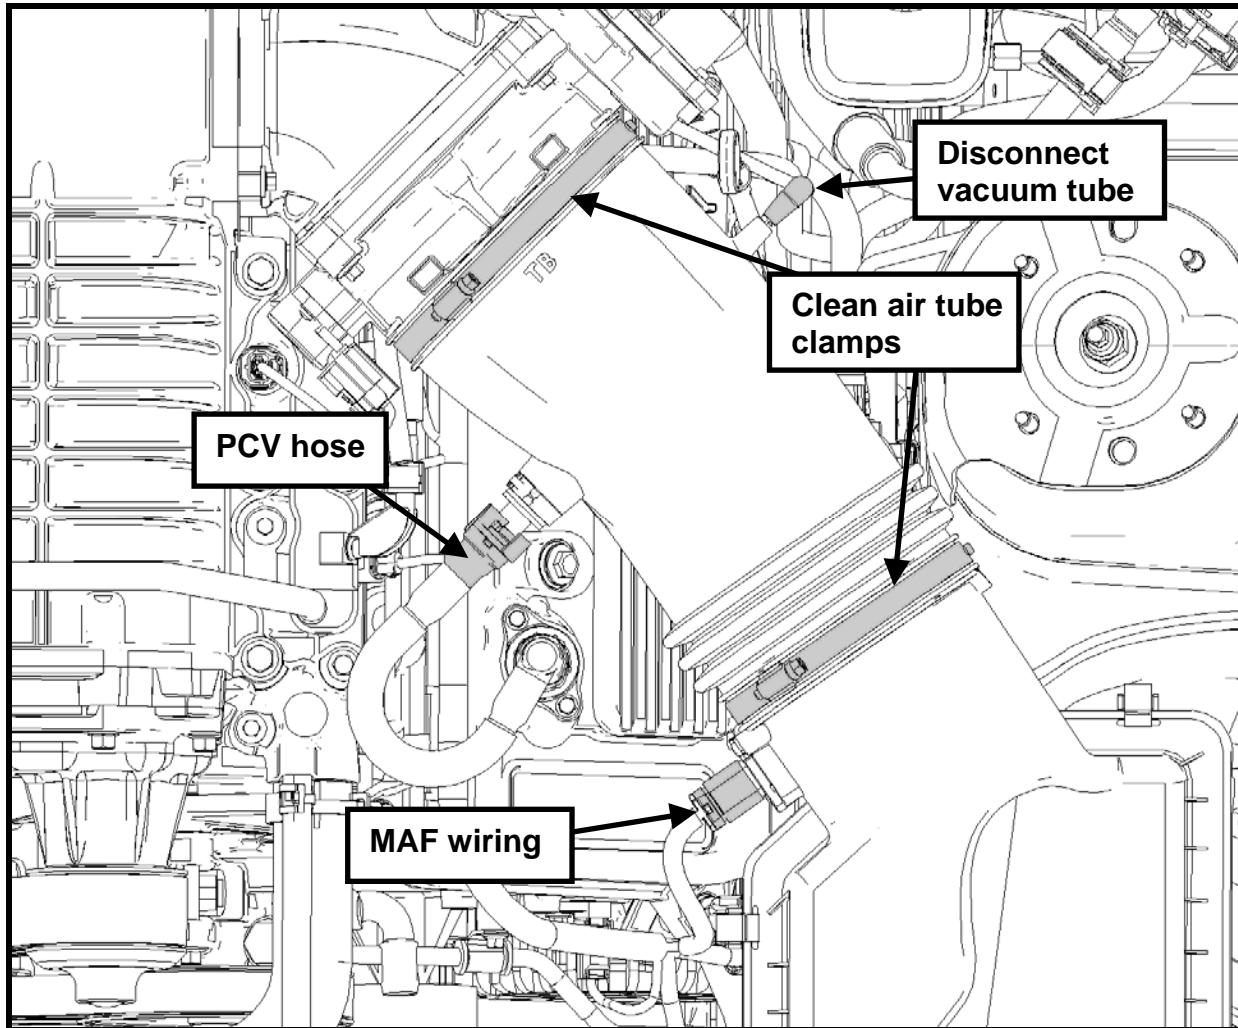

Fig. 4
**STEP 6:** Disconnect the electrical connector from the MAF sensor. Disconnect the vacuum harness and PCV hose from the clean air tube. Remove the clean air tube from the airbox and throttle body (See Fig. 4).